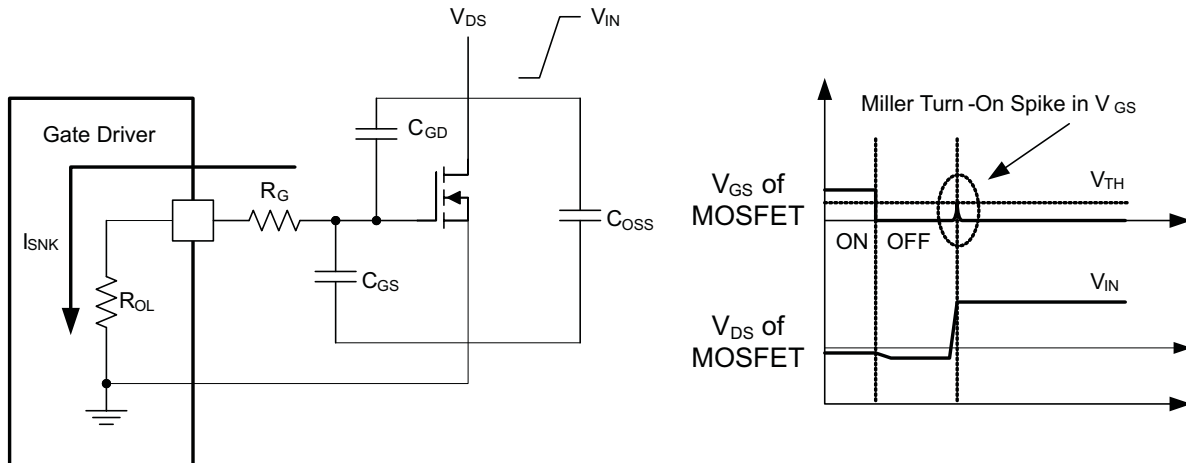

Figure 15. Low Pull-Down Impedance in UCC27611, 4-A and 6-A Asymmetrical Drive (output stage mitigates Miller turn-on effect)
An example of a situation where Miller turn on is a concern is synchronous rectification (SR). In SR application, the dV and dt occurs on MOSFET drain when the MOSFET is already held in off state by the gate driver. The current discharging the C_{GD} Miller capacitance during this dV and dt is shunted by the pull-down stage of the driver. If the pull-down impedance is not low enough then a voltage spike can result in the V_{GS} of the MOSFET, which can result in spurious turn on. This phenomenon is illustrated in Figure 15. UCC27611 offers a best-in-class, $0.35\text{-}\Omega$ (typ) pull-down impedance boosting immunity against Miller turn on.